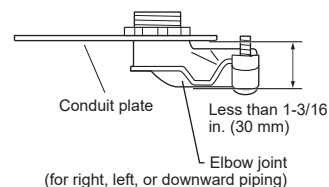

Fig. 2
- 6) Elbow joint should appear less than 1-3/16 in. (30 mm) outside. (Fig. 2)